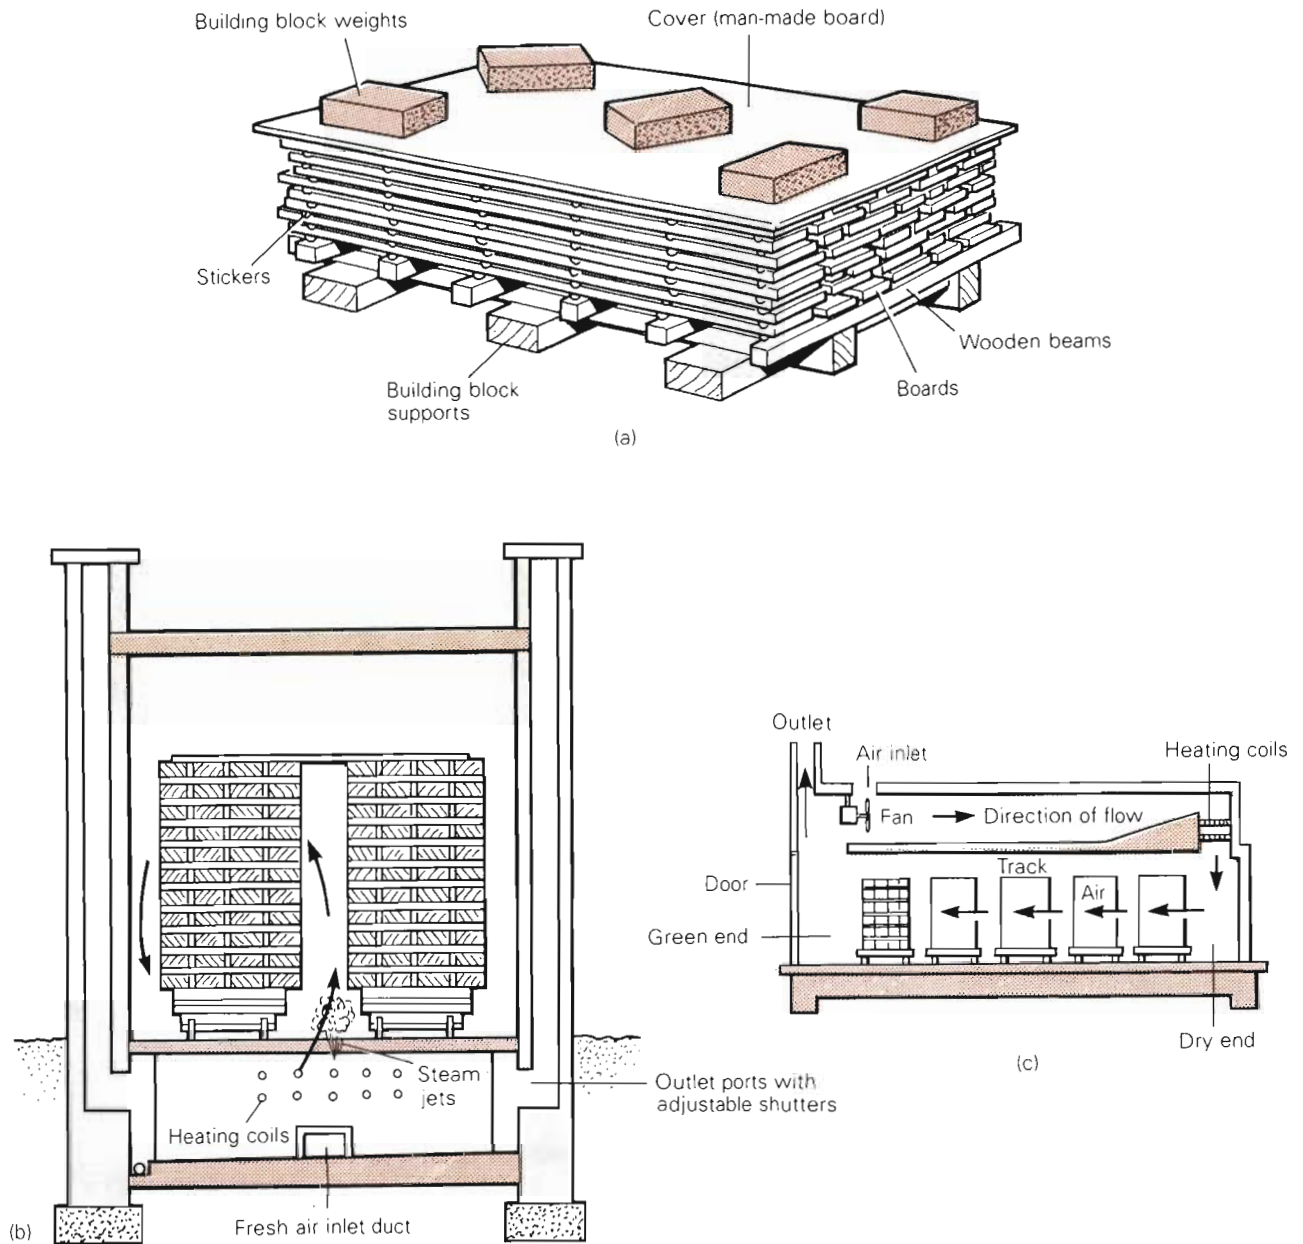

Figure 9.7 Methods of seasoning: (a) natural air seasoning, (b) kiln seasoning, (c) progressive kiln seasoning.
worked (Figure 9.7). The purpose is to reduce the moisture content (MC) of the timber to a stage at which it becomes stable in the environment where it is to be used. The moisture content is quite critical when considering how and where the timber is to be used or the type of construction work to be done.